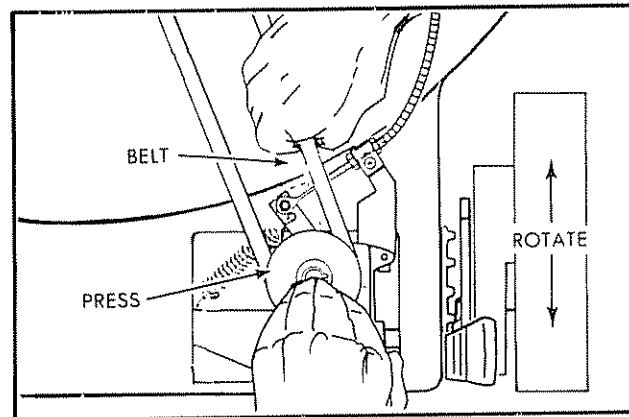

FIG 25
- a. Push down on gear case pulley until belt can be removed from gear case pulley (See Fig. 25).